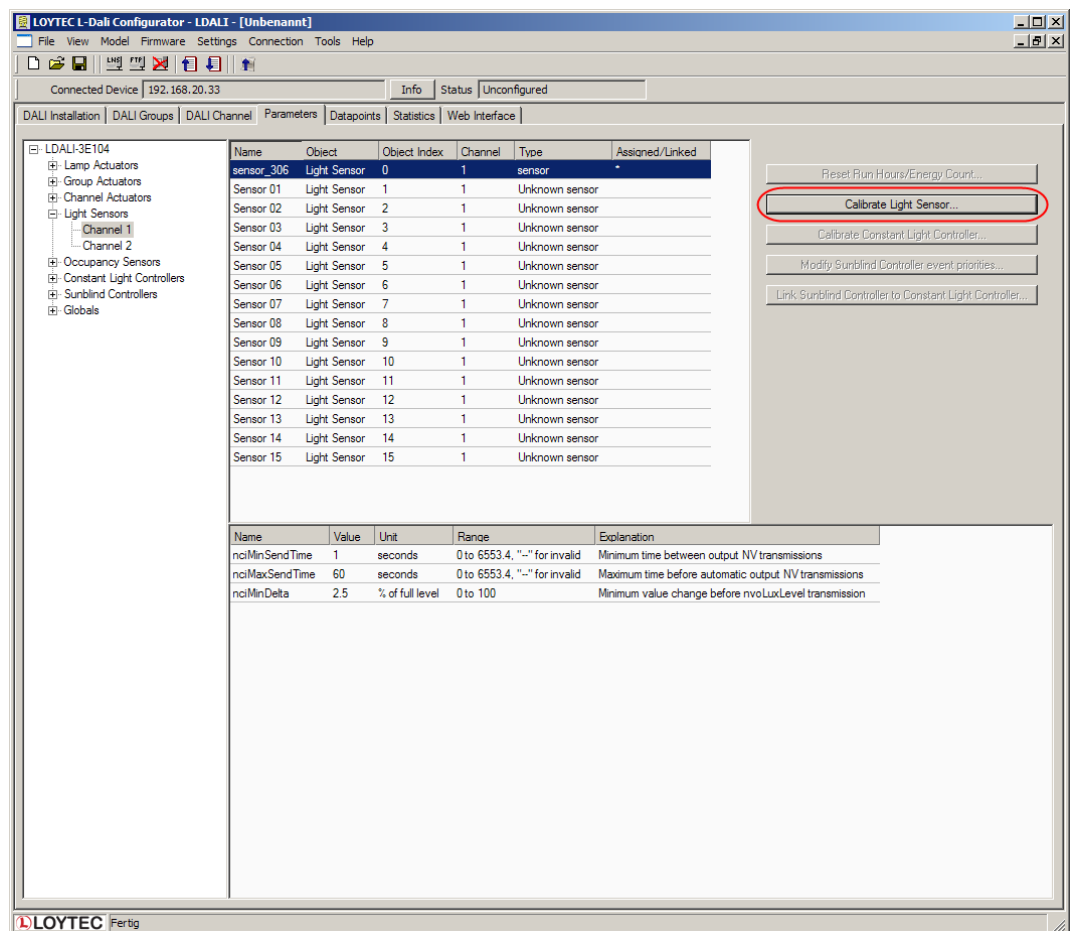
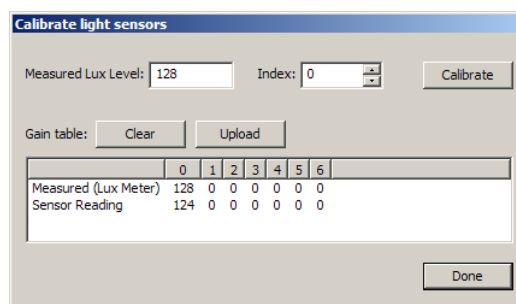

Figure 19: Parameterize Light Sensor
Figure 20: Calibrate Light Sensor
2. Select the light sensor index 0 and click on the **Calibrate Light Sensor...** button as shown in Figure 19. The light sensor calibration window as shown in Figure 20 is displayed.